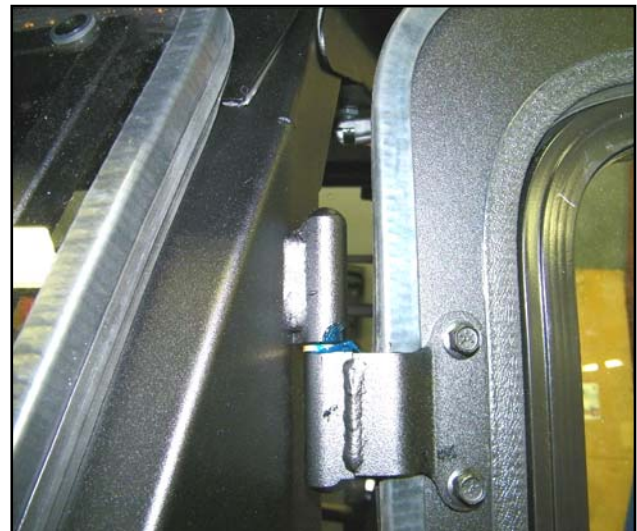

Fig. 16.4 Assembled Hinge
16.4 Install a brass washer to the lower hinge of the driver's side A-Pillar. Place the driver side door onto the lower hinge of the driver side A-Pillar. Latch the door, then install a brass washer and the upper hinge sleeve to the A-Pillar. Then bolt the left hinge sleeve to the door. Wipe away any excess grease from the hinges. See Figure 16.4